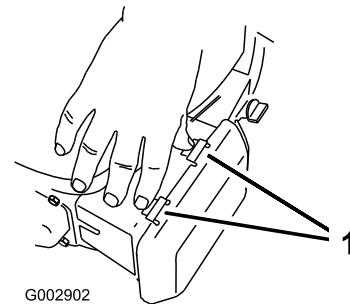

Figure 21
1. Press down on the latch tabs on top of the air-cleaner cover (Figure 21).